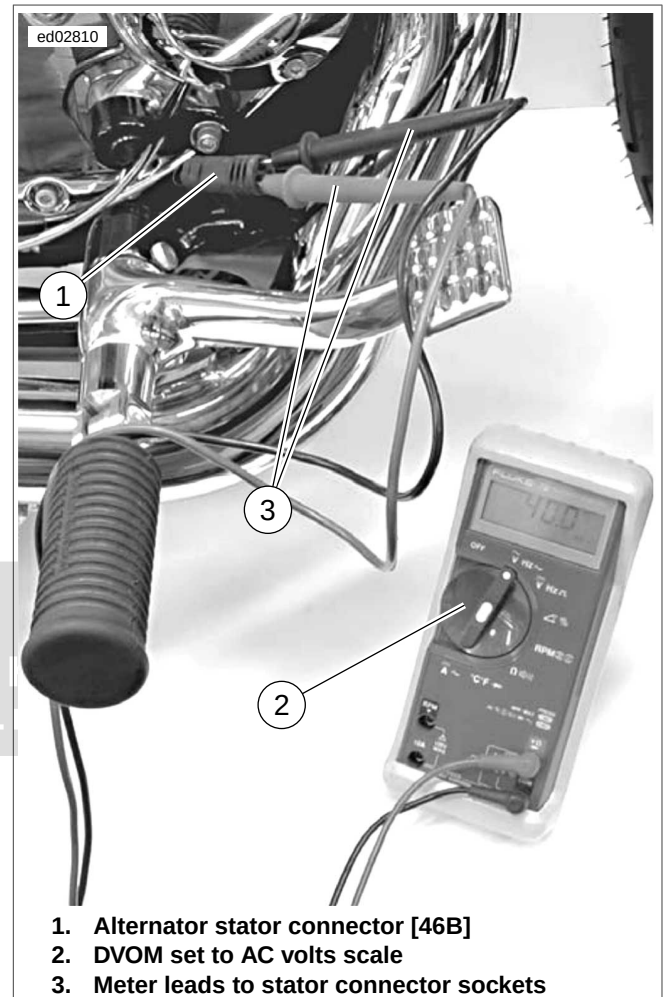

Figure 1-27. Check Stator AC Voltage Output (Typical)
1. See Figure 1-27. Test AC output.